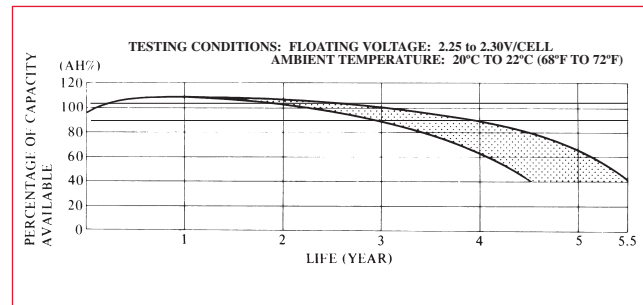

Figure 17. Float Service Life
Figure 17 shows the float service life characteristics of Genesis NP batteries when discharged once every three (3) months to 100% depth of discharge.